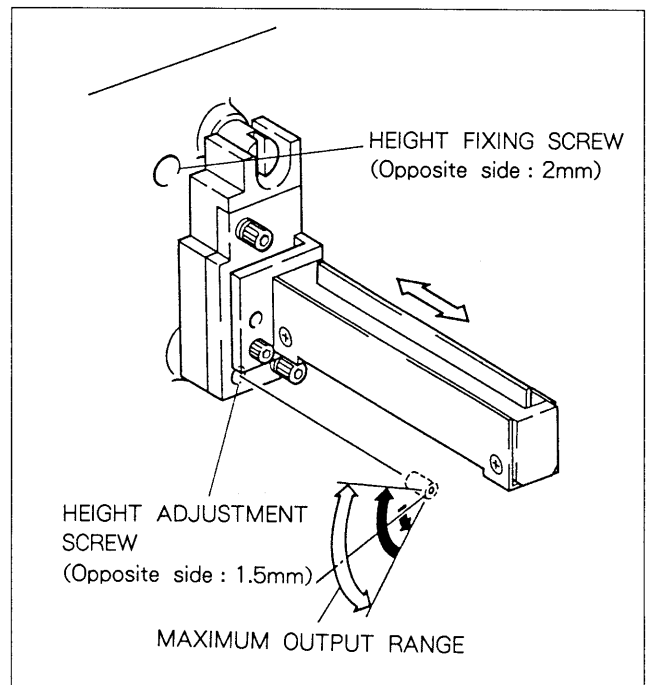

Fig. 9-7-5. Audio REC Head Height Rough Adjustment
- (2) Loosen the height fixing screw shown in Fig. 9-7-5.
- (3) Turn the height adjustment screw in the counterclockwise direction so that the CH-2 (DA. CH-8) output is zero. Turn the height adjustment screw gradually in the clockwise direction until the CH-1 (DA. CH-1) output becomes the maximum, and check the maximum output range.
- (4) Set the height adjustment screw in the middle of the maximum output range.